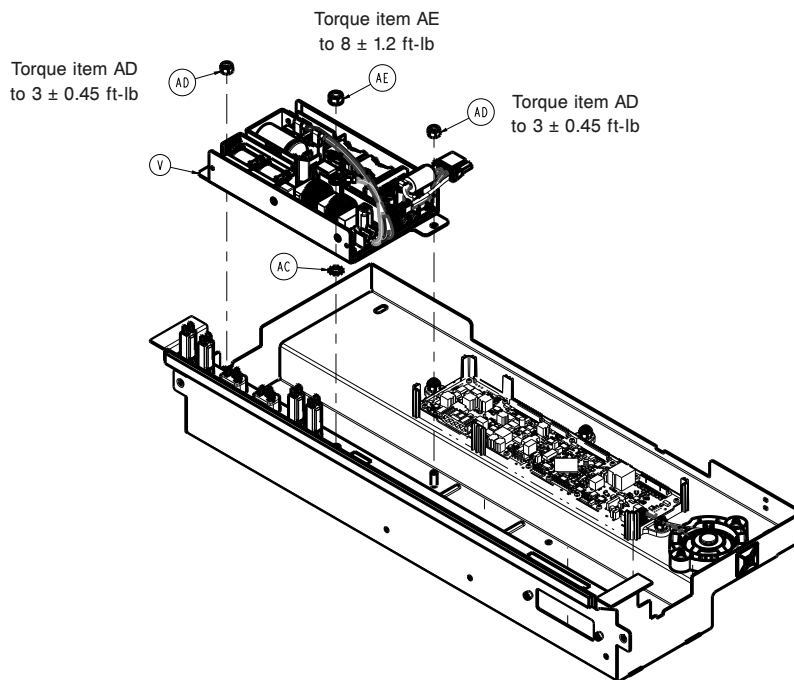

Figure 30 – Replacing the power supply
11. Using a ratchet and a 7/16" socket, remove the two nuts (AD) that secure the power supply assembly to the electrical enclosure (Figure 30). Save the nuts.